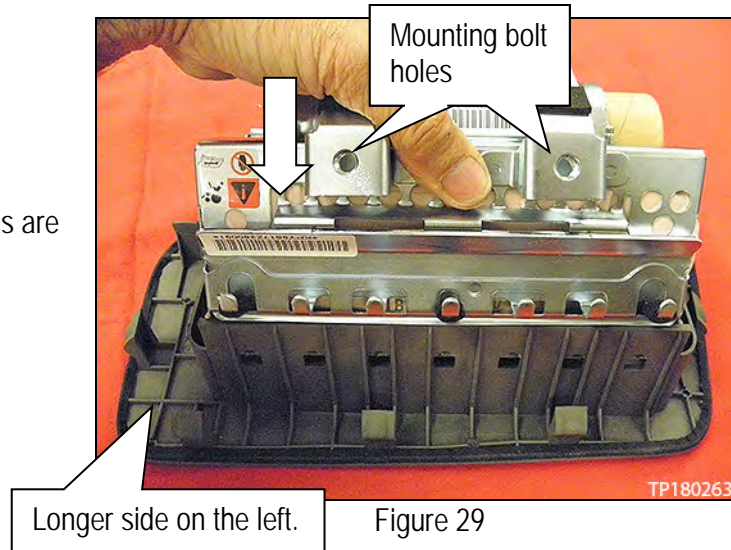

Figure 29
- Make sure the mounting bolt holes are oriented as shown in Figure 29.